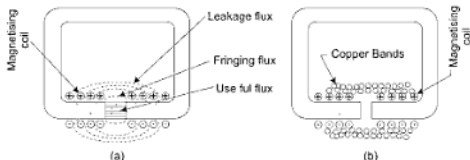

Fig. A3-18
- (i) By placing the magnetising coils as closely as possible to the air gap or to the place in the magnetic circuit where flux is required for the useful purposes as shown in Fig. A3-18(a).
- (ii) By placing the copper bands around the air gap or at the place in the magnetic circuit where flux is required as shown in Fig. A3-18(b).